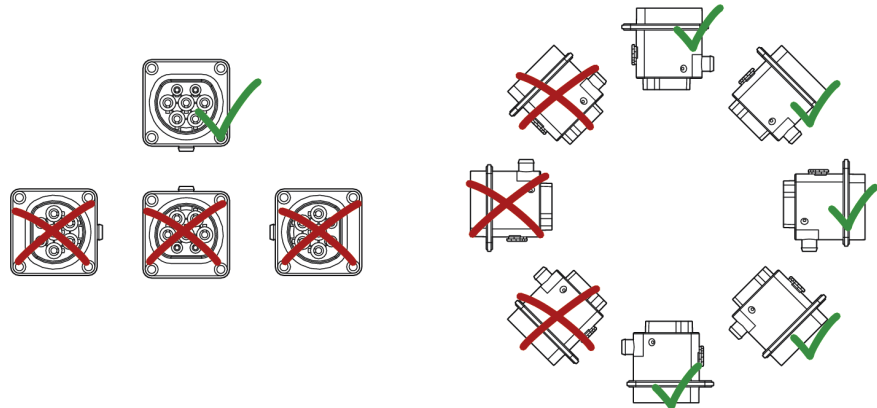

Figure 8-1 Mounting position and alignment
2. Maintain the permitted mounting position (see Figure 8-1). The Infrastructure Socket Outlet must not be installed upside down or on its side, as this would inhibit the water draining function. An upward- or downward-rotated position is possible however.